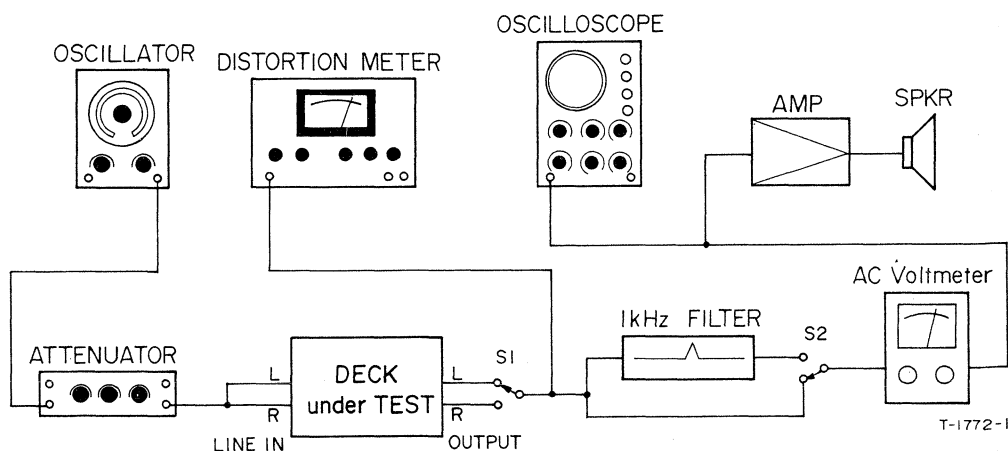

Fig. 6-20 Basic test setup
10. Connect the deck and test equipment as shown in Fig. 6-20.